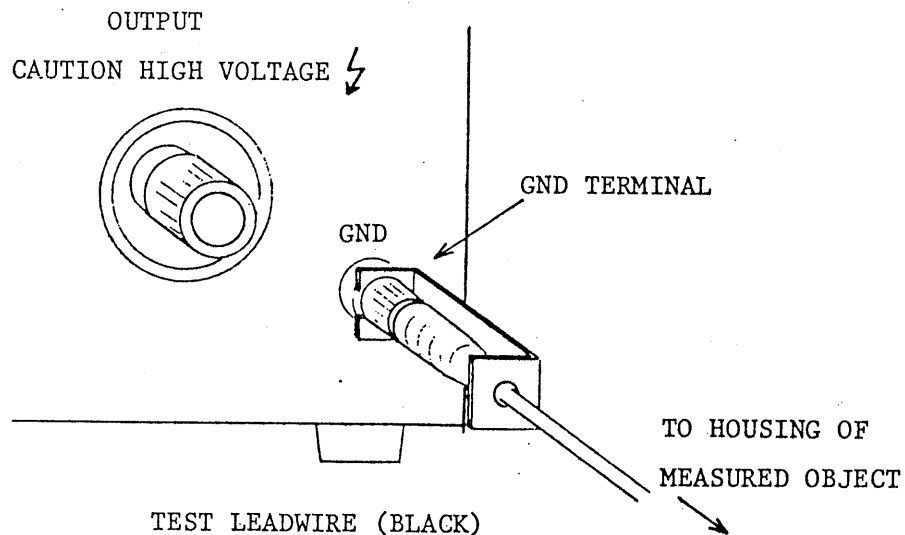

Figure 3.1
- (1) Be sure to connect securely the GND terminal to a good grounding earth line. If grounding is imperfect, the instrument casing can be charged to the high voltage of the instrument when the output is shorted to the ground line or power line and hazards can be caused to the operator when he touches the instrument.
- (2) The connection method of the test leadwire of the GND side is shown in Figure 3.1. Be sure to check for that this leadwire is not open, each time the instrument is used. Also be sure to connect at first the GND terminal to the ground line of the measured object. If it is not securely connected, the measured object becomes a floated state and a dangerously high voltage may be built up in the measured object.